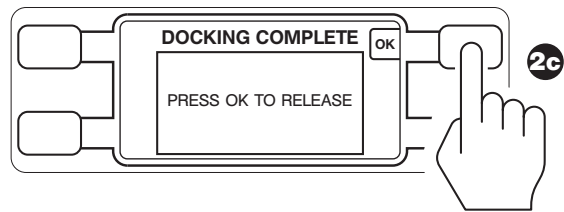

Figure 43 Docking Complete Screen
c. After the cycle is complete, the DOCKING COMPLETE screen will appear on the control panel display (Figure 43). Push the button next to the OK icon to detach the rover from the docker. Pull the rover away from the docker.